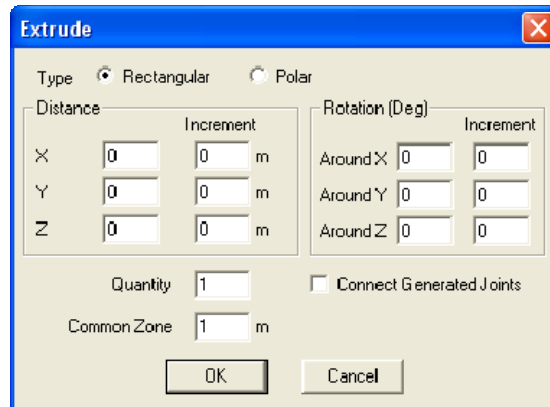

Figure 6-7 Extrude dialog box
- In the Graphics area, using the left-mouse button, click on a base joint. The base joint must be a selected joint. The dialog box of Figure 6-7 appears.